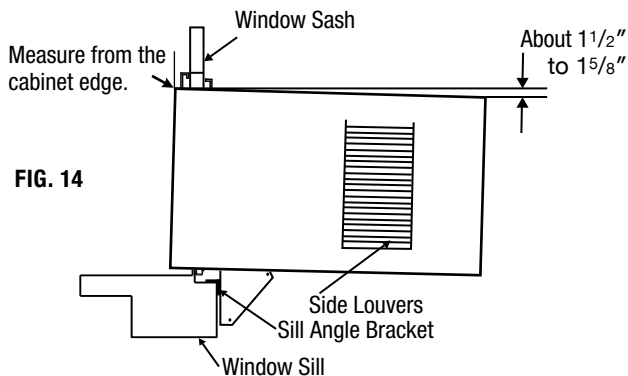

FIG. 14
**NOTE:** Check that air conditioner is tilted back about  $1\frac{1}{2}''$  to  $1\frac{5}{8}''$  (tilted about  $3^\circ$  to  $4^\circ$  downward toward the outside). If, after proper installation, condensation does not drain from the overflow drain hole during normal use, adjust slope. (Fig 14)